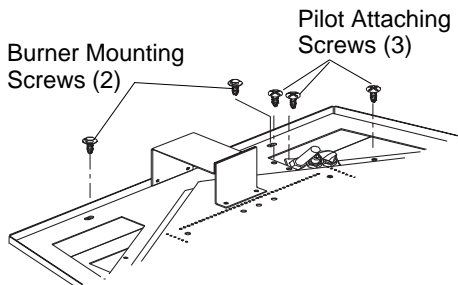

Figure 18 - Removing Burner Assembly
1. Disconnect the burner from the burner mounting flange by removing two screws (see Figure 18).
2. Disconnect the pilot from the burner by removing three screws holding the pilot mounting bracket (see Figure 18).